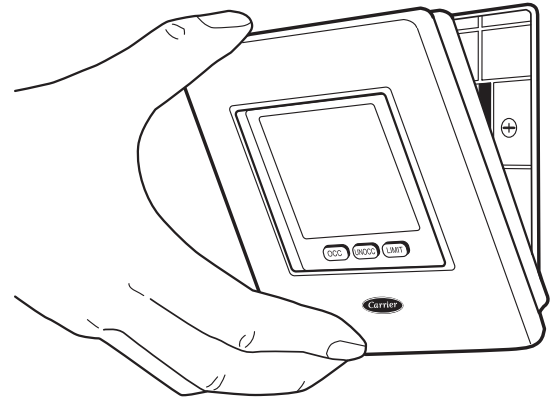

Fig. 5 — Attach Thermostat to Backplate
- Attach thermostat to backplate by inserting tab on bottom edge and hinging up until top snap secures. See Fig. 5.